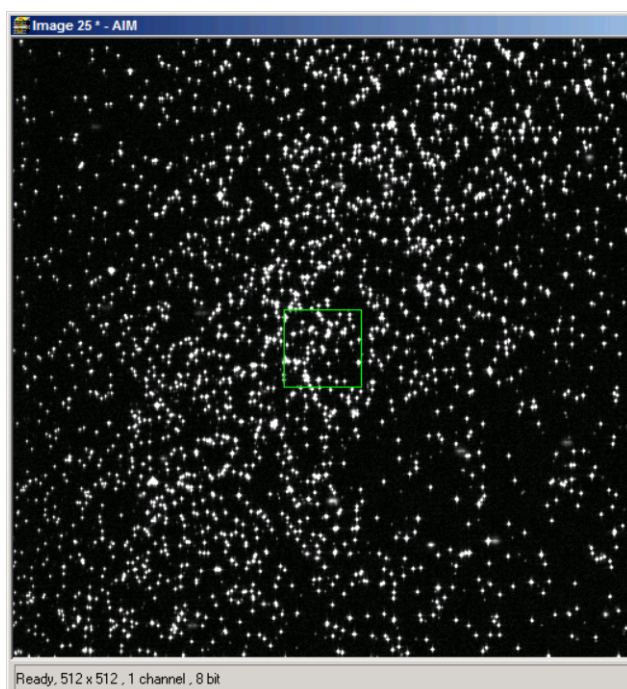

Fig. 12 **Beads optimally focused**
- Now use the **Collimator** slider to get a round spot out of the line (Fig. 12).